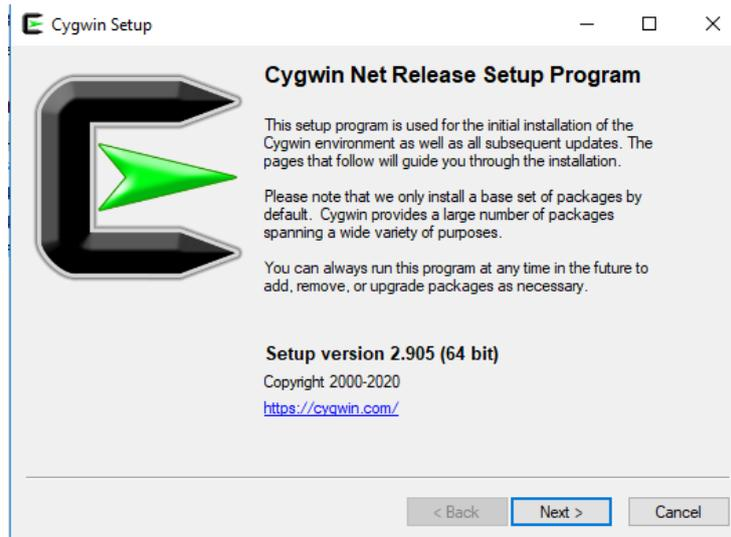
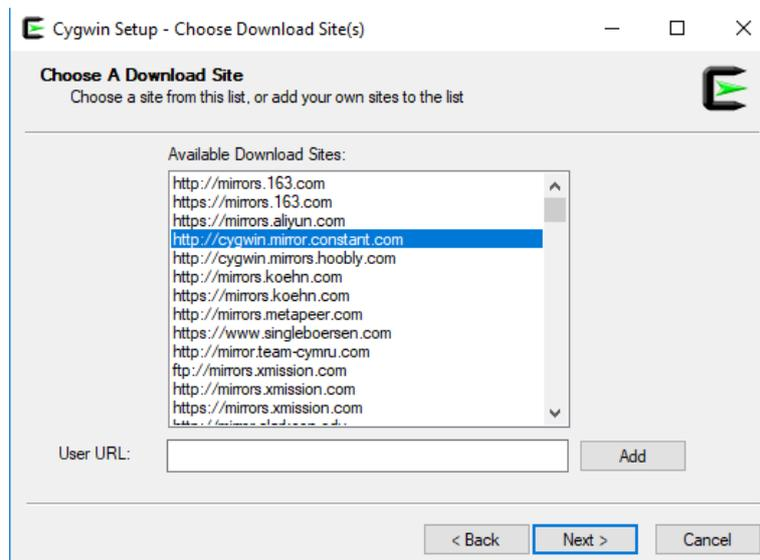

Figure 102. Cygwin installation window
Figure 103. Choose Download Site
2. Execute the setup file in your machine by double-clicking on it (Figure 102). Click **Next** several times, maintaining the default options. The installer will ask you to **Choose a Download Site** (Figure 103), you can choose any one of them.